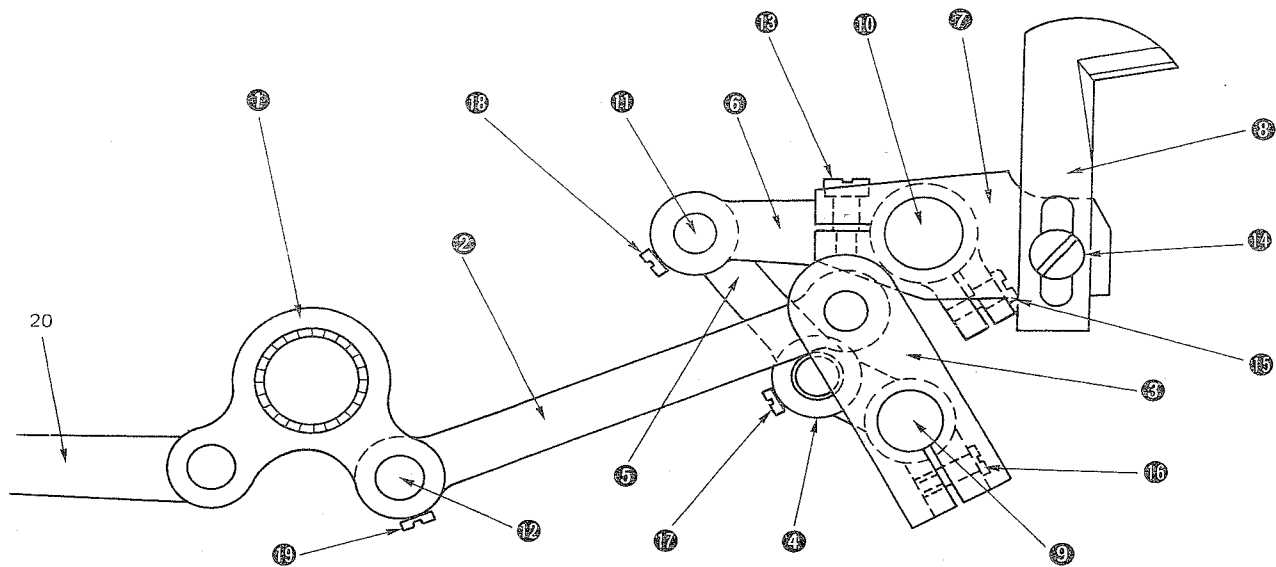

Fig. V-4-1
Fig. V-4-1 illustrates the major moving parts of the knife. Feed crank link ① mounted on the lower shaft moves vertically along the elliptical stroke using the shaft of the feed crank link ⑪ which is eccentric to the rotation of the lower shaft. Driving arm ③ of driving link ② connected to feed crank link ① oscillates, centering feed rocker shaft ⑨ along with the vertical and elliptical movement of feed crank link ①. The oscillation of the driving rod is then transferred to feed rocker arm, lower ④, while the vertical movement is transferred to feed rocker link ⑥. Consequently, feed rocker arm, upper ⑥ also moves vertically, while causing differential feed shaft ⑩ to oscillate. Upper knife base ⑦ attached to differential feed shaft ⑩ oscillates, centering the knife shaft and actuating the vertical movement of the knife.